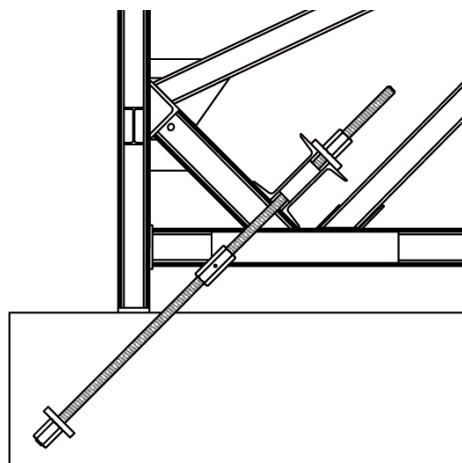

Fig. 9.3
- Anchoring by using a 1" (26.5 mm) threadbar and a twin channel 80 or 245 (Fig. 9.3).